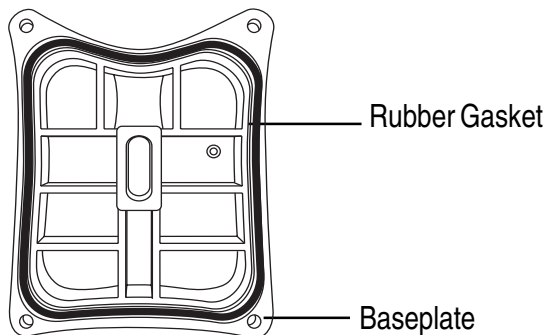

Figure 11. Baseplate Rubber Gasket (Bottom View)
2. Make sure rubber gasket seal is placed evenly into base plate groove as shown in Figure 11. For best results apply a little water to the seal. Applying water to the seal will make a tighter suction when the vacuum pump is turned on. If seal is worn or damaged, replace with a new one.